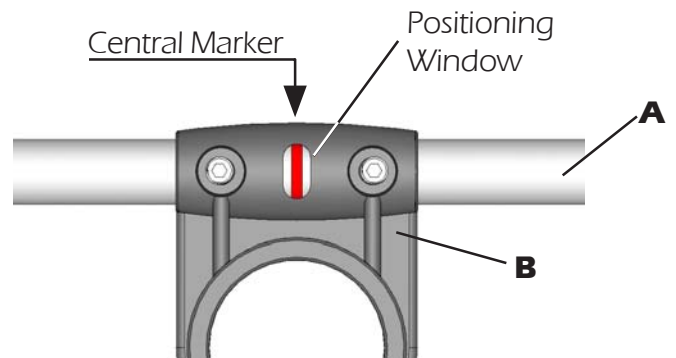
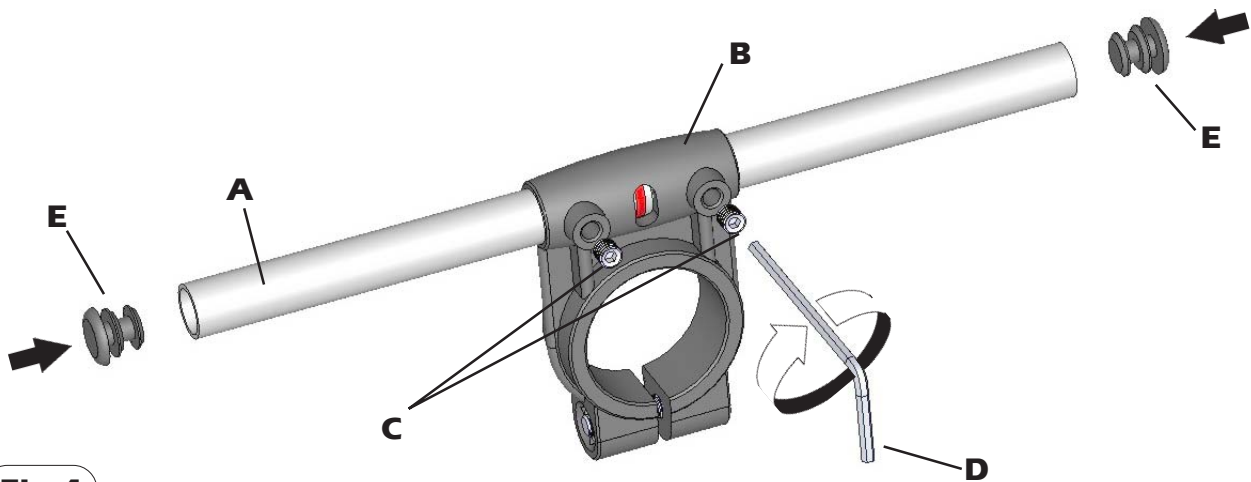

Fig. 3
Fig.4
2) Place the reference marker of the aluminium element **A** in the centre of the plastic support **B** (see **fig. 3**) and lock the screws **C** by the supplied key **D** (**fig. 4**). When the screws touch the aluminium tubes you can finally lock them turning for 1.5 turns.
3) Insert the plastic caps **E** on the aluminium elements **A** (see **fig. 4**)